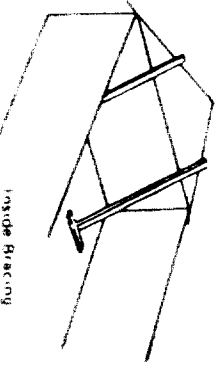

Fig. 2
1. **Gable End (or first truss) Bracing:** The gable end or first truss must be adequately anchored to serve as the starter. Note figure 2 which shows the inside and outside bracing of the gable end.
1. Start with one gable end truss and fasten it to the top plate with toe nails or anchors as conditions require. Be sure to brace the gable end as shown in figure 2.